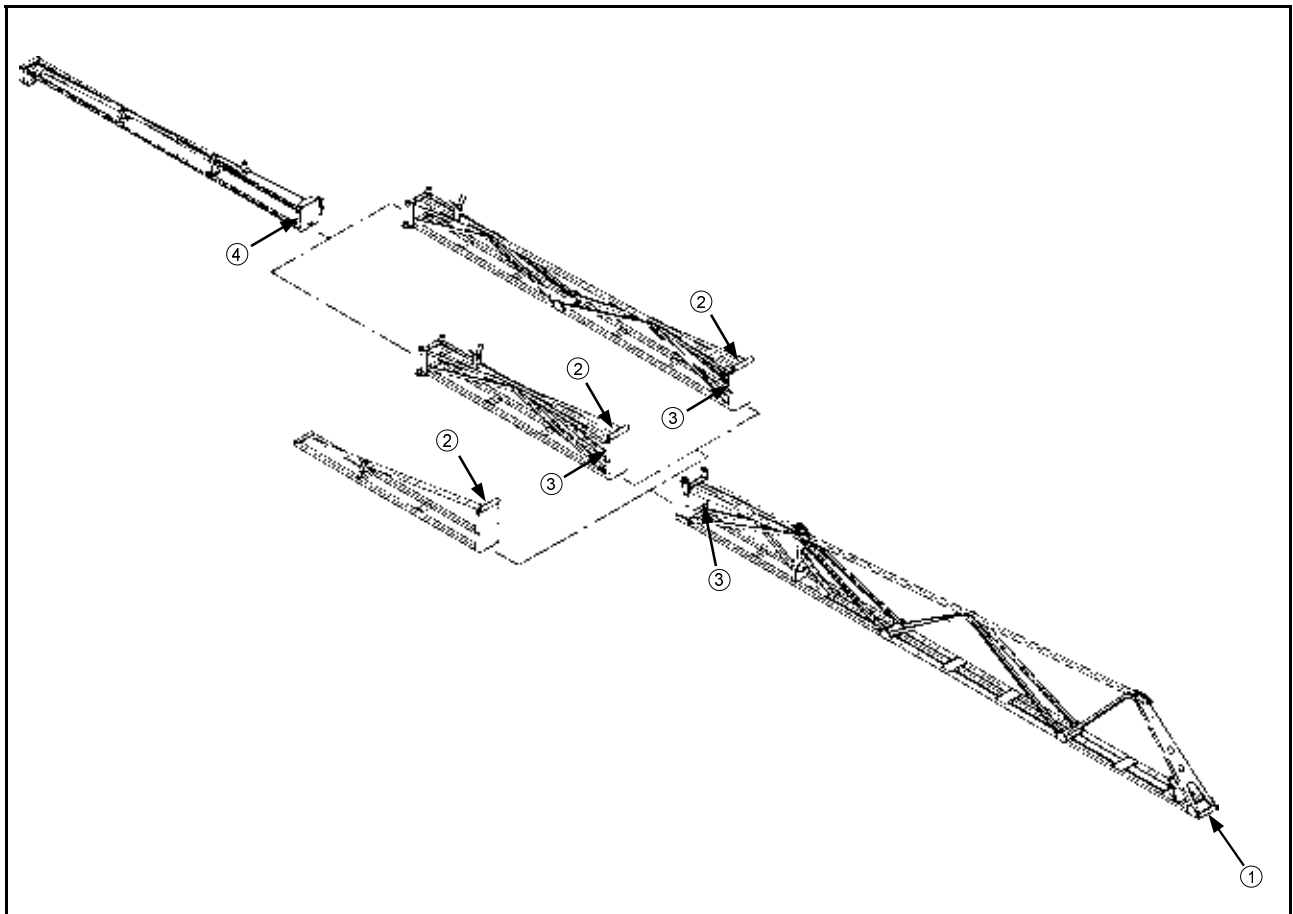

FIG 8.41
Sixty foot boom options have a grease zerk on the boom level pivot point connected to the breakaway (fig. 8.41, item 1) and the boom extension vertical folding pivot point (fig. 8.41, item 2). Eighty and ninety foot boom options also have these zerks in addition to zerks for the boom folding link clevis pins (fig. 8.41, item 3) and the folding pivot of the outer boom breakaway (fig. 8.41, item 4). Check all and grease as required.